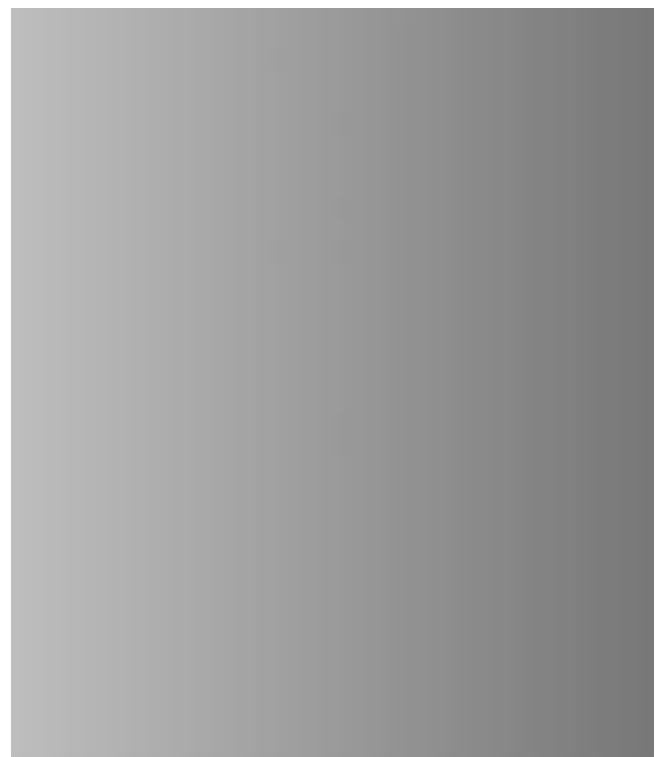

Figure 3-2. *30-60GRAD.TIF* Test Print File
2. Print the file *30-60GRAD.TIF* at a minimum of 106 line screen. This will print a horizontal gradient, varying from 30% to 60% gray across the full image area of a letter-size sheet. Inspect the printout for anomalies such as horizontal or vertical lines, which are associated with the print engine itself – gear mesh problems, defects in the drum, etc. Refer to figure 3-2.